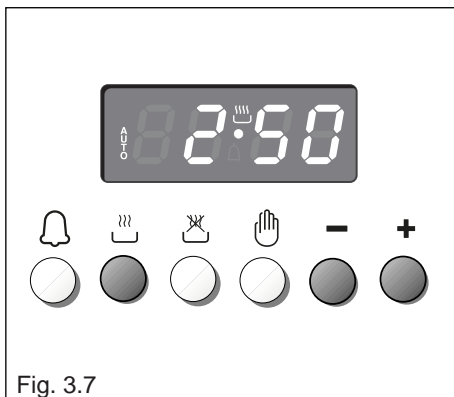

Fig. 3.7
1. Set the length of the cooking time by pushing the  button and the  button to advance, or  to go backwards if you have passed the desired time (fig. 3.7).